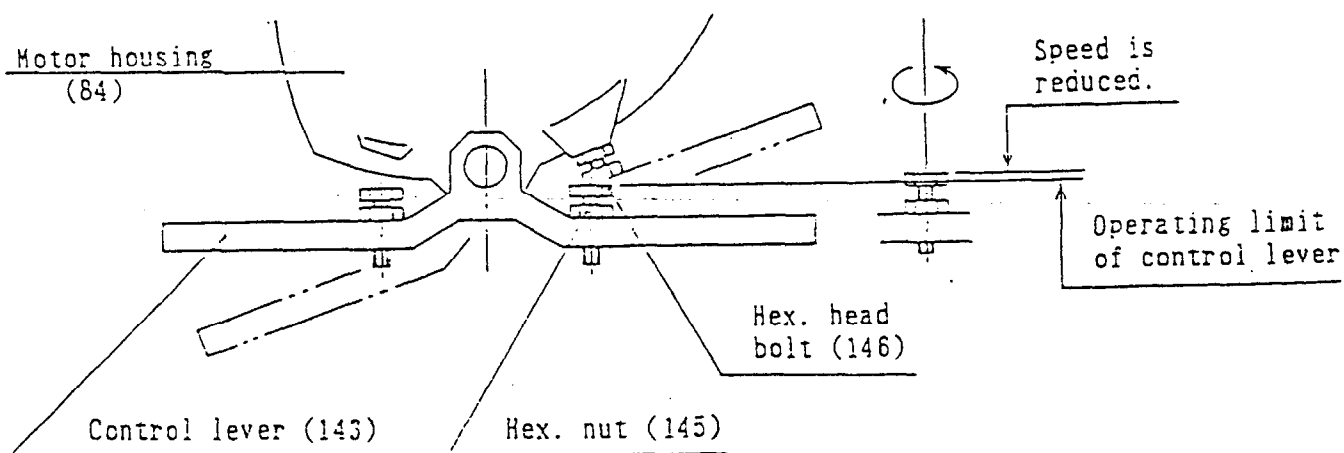

Fig. 7
X. Adjustment for Speed and Operating Limit of Control Lever (Fig. 7)